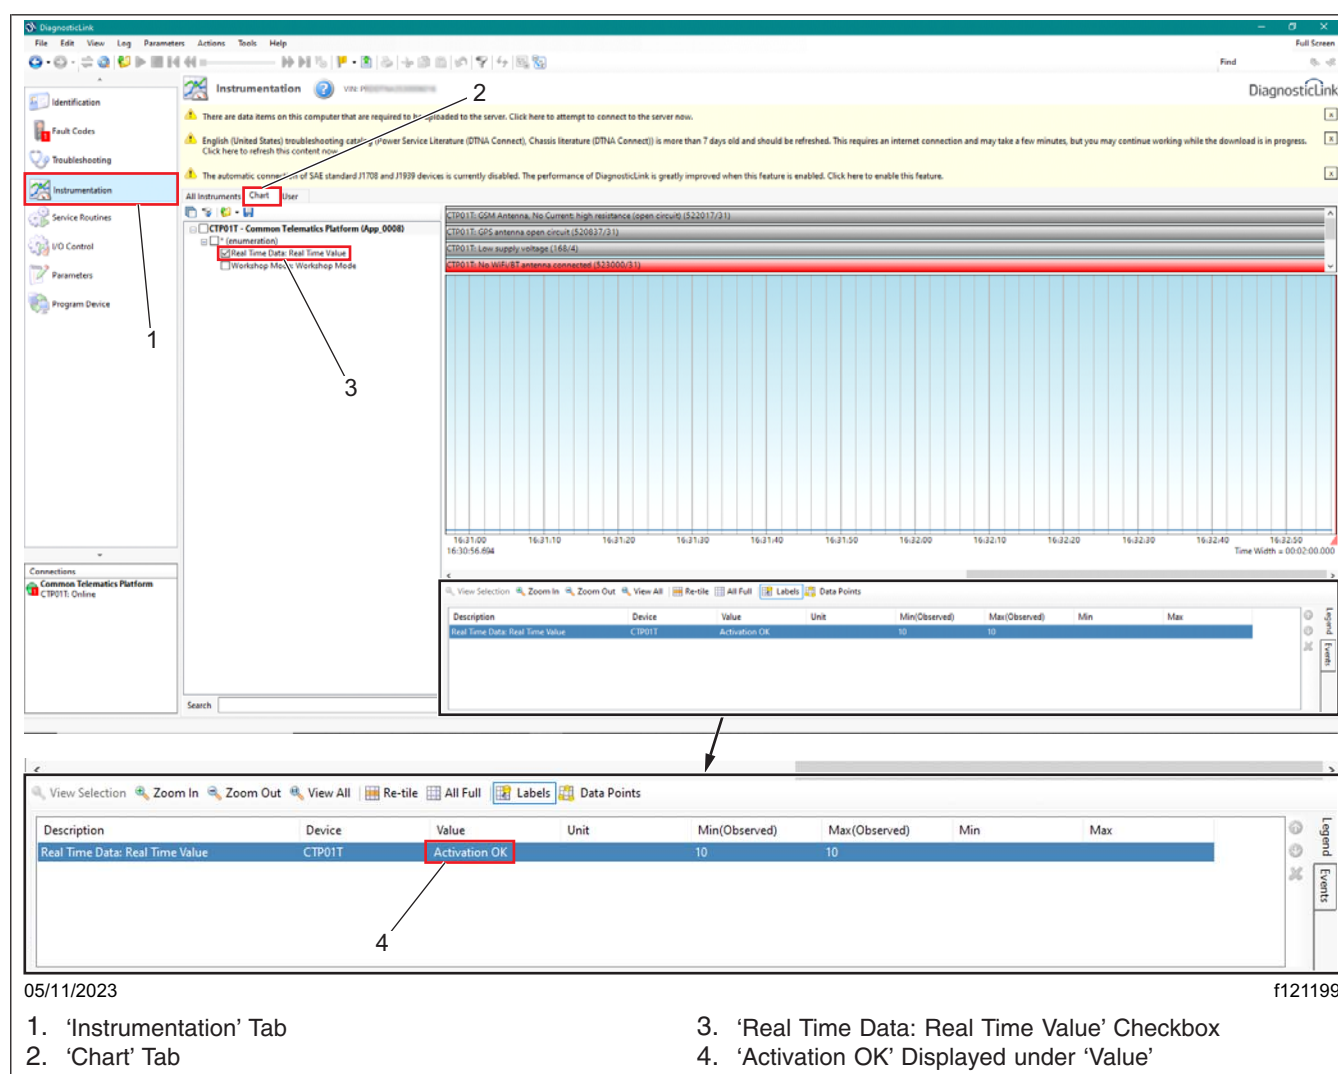

Fig. 7, CTP Software Update Successful
- 17.2 Go to 'Instrumentation,' 'Chart,' then select the 'Real Time Data: Real Time Value' checkbox. Verify 'Activation OK' is displayed under 'Value,' as shown in **Fig. 7**.